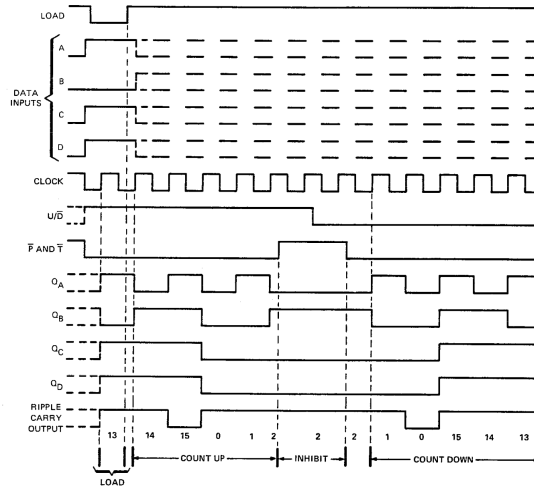

Figure 7: Waveform of Counter *SN74LS169A*
- I. The first bug we encountered occurs in the counter part. According to the Moore Machine we design, we need the counter to pause and stay in 00 at the *Reset* state. We then check the waveform of the counter to find the signals needed to pause the counter. The waveform is shown in Figure 7. It is clear that when the signals  $\overline{P}$  and  $\overline{T}$  are triggered, the counter will be paused and stayed in the previous state. We then need to figure out which signal in our circuit should be fetched into  $\overline{P}$  and  $\overline{T}$ .